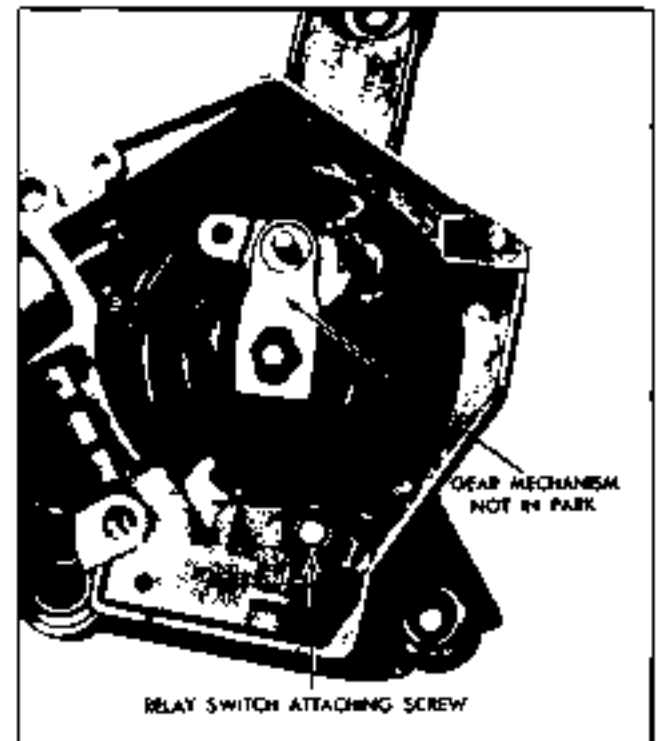

Fig. 12A-6 Checking Latch Arm Switch - Depressed Park
a. Remove relay-switch attaching screw (Fig. 12A-6) and carefully lift relay-switch out of gear box.